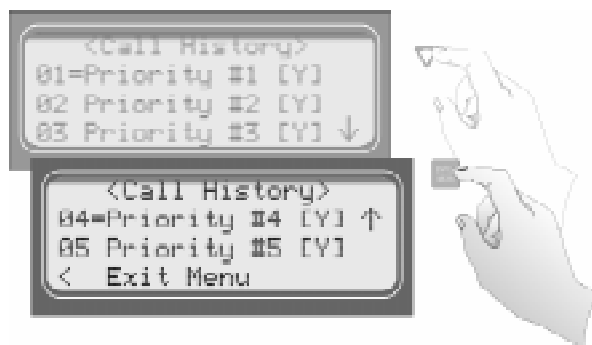

Figure 4-15 Call History Options
6. Press the  or  button to move through the call history menu choices. See Figure 4-15.